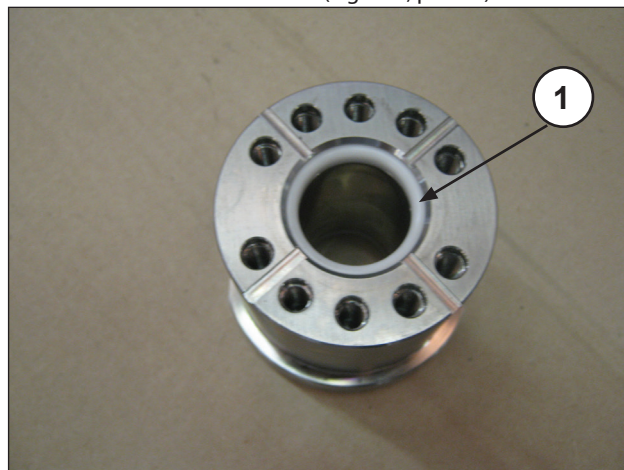

Fig. 131
- Insert the seal into the liner (Fig. 131, pos. ①).